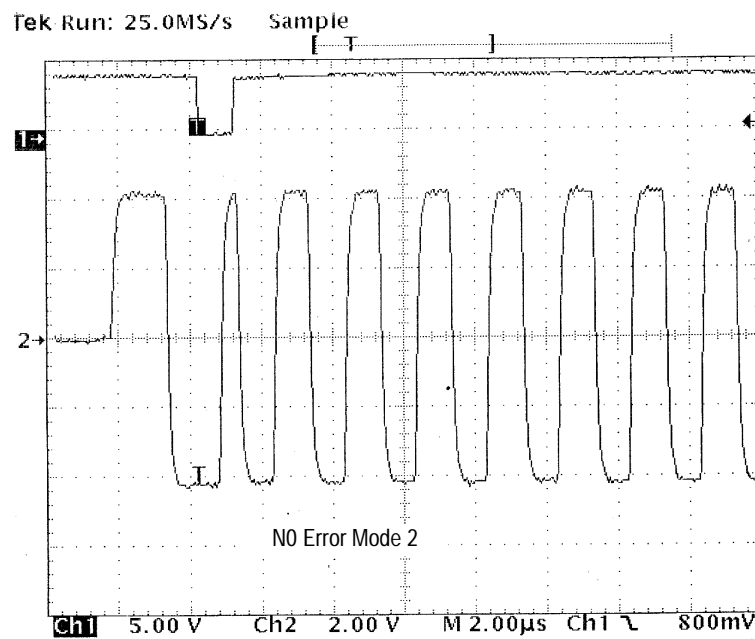
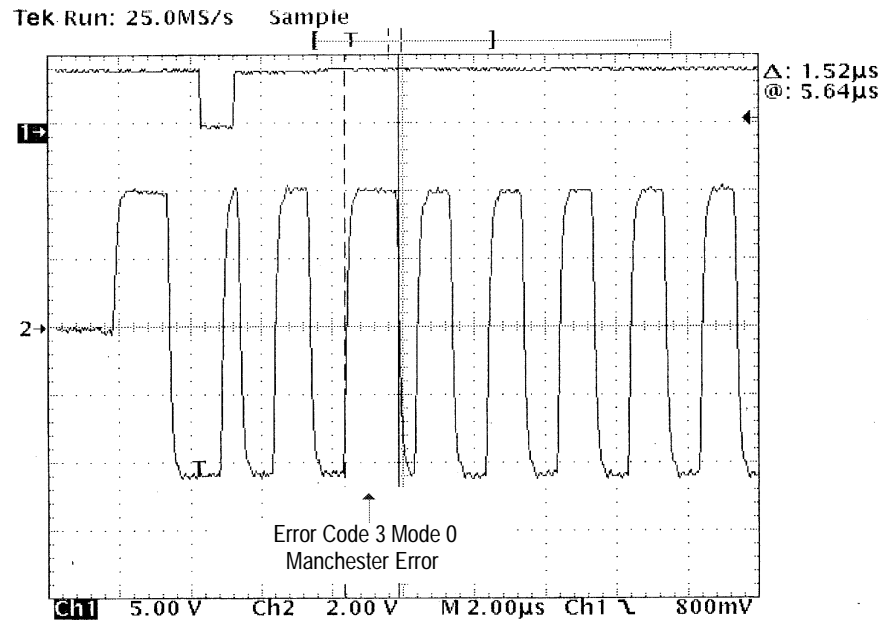

Figure 455-14: No Manchester Error
Figure 455-15: Manchester Error.
3. Compare Figure 455-14 (no Manchester error) to Figure 455-15 (with a Manchester error) to insure that there is a Manchester error.